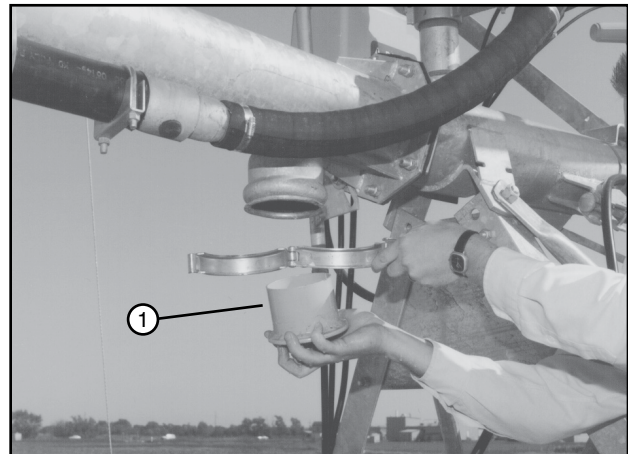

Figure 106-2 1. Sand Trap
4. Remove and clean the sand trap at the last regular drive unit. See Figure 106-2.